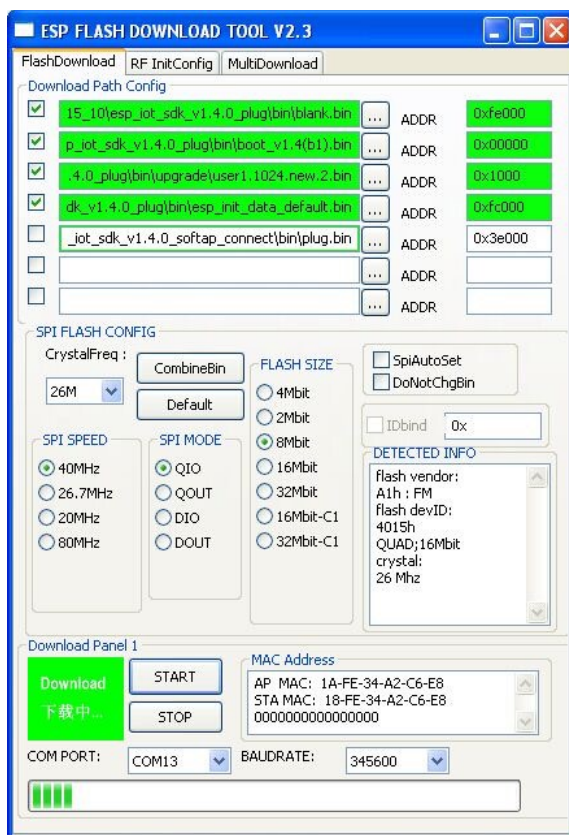

Figure 2 ESP FLASH DOWNLOAD TOOL - FlashDownload tab
4. Double-click **ESP_DOWNLOAD_TOOL.exe** to open ESP FLASH TOOL (see Figure 2).